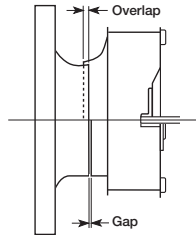

Figure 5
1. Check all fasteners and setscrews for tightness. The wheel should rotate freely and be aligned as shown in Figure 5.